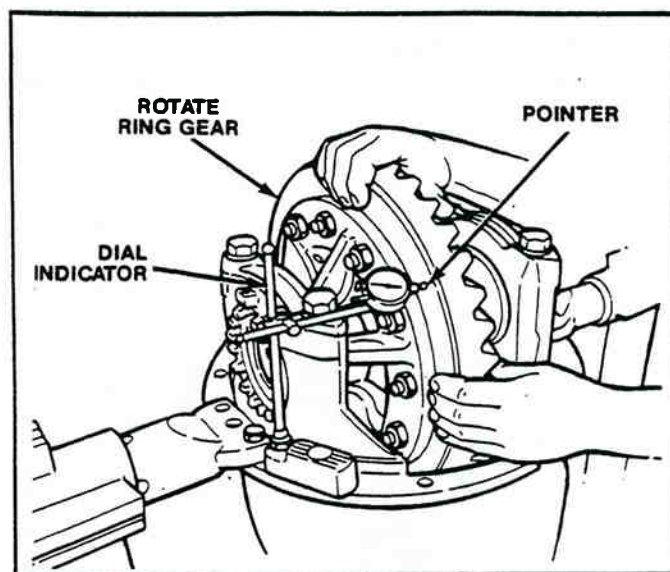

Figure 2-81. Checking Ring Gear Runout.
1. Attach a dial indicator on the mounting flange of the carrier (Figure 2-81).
3. Adjust the dial of the indicator to zero (0).
4. Rotate the differential and ring gear while you read the dial indicator. The runout of the ring gear must not exceed .008 inch (.20 mm) (Figure 2-81). If runout of the ring gear exceeds specifications, remove the differential and ring gear assembly from the carrier. See the disassembly procedure in earlier pages of this section and the following steps 5 and 6.